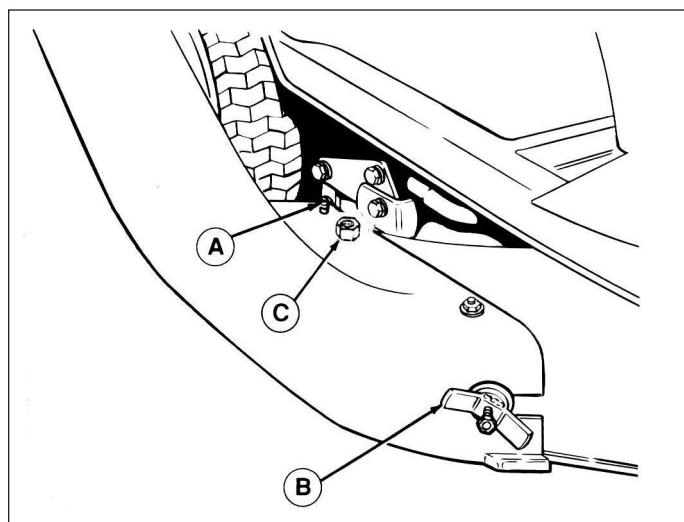

**Figure 11b. Install High-Lift Blade - Early Models**
1. Remove existing discharge-side blade but retain hardware. Remove the retaining band (E, figure 11 b) from the arbor shaft and remove the existing splined adapter (3-3/8" O.D. F, figure 11b). This adapter can be discarded. The new 2" O.D. splined adapter supplied with the bagger can be used with regular or high-lift blades. Install the new 2" splined adapter with existing retaining band (E).
2. Install the new high-lift blade (D, figure 11 b) with the tabs pointing up toward the bottom of the deck. Secure with existing hardware (A, B, & C, figure 11b) and torque capscrew to 50-70 ft. lbs. (66-76 N.m.).